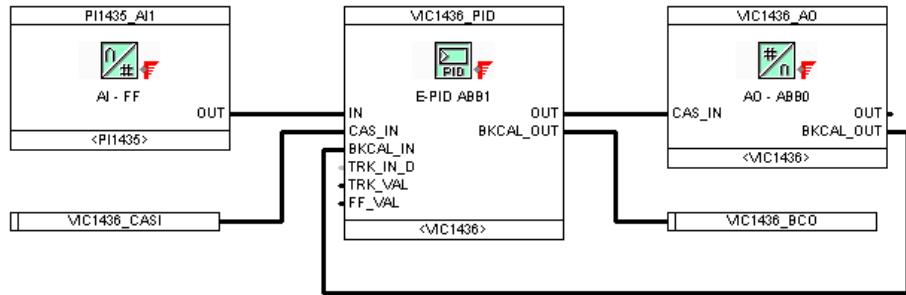

Figure 175. FF Application
- h. Insert another FF signals accordingly (see Figure 175).
9. Connect the function block pins as shown in Figure 175. To do this, drag the connecting lines with the left mouse button held down, the routing of the signal line is automatically defined by Fieldbus Builder FF.